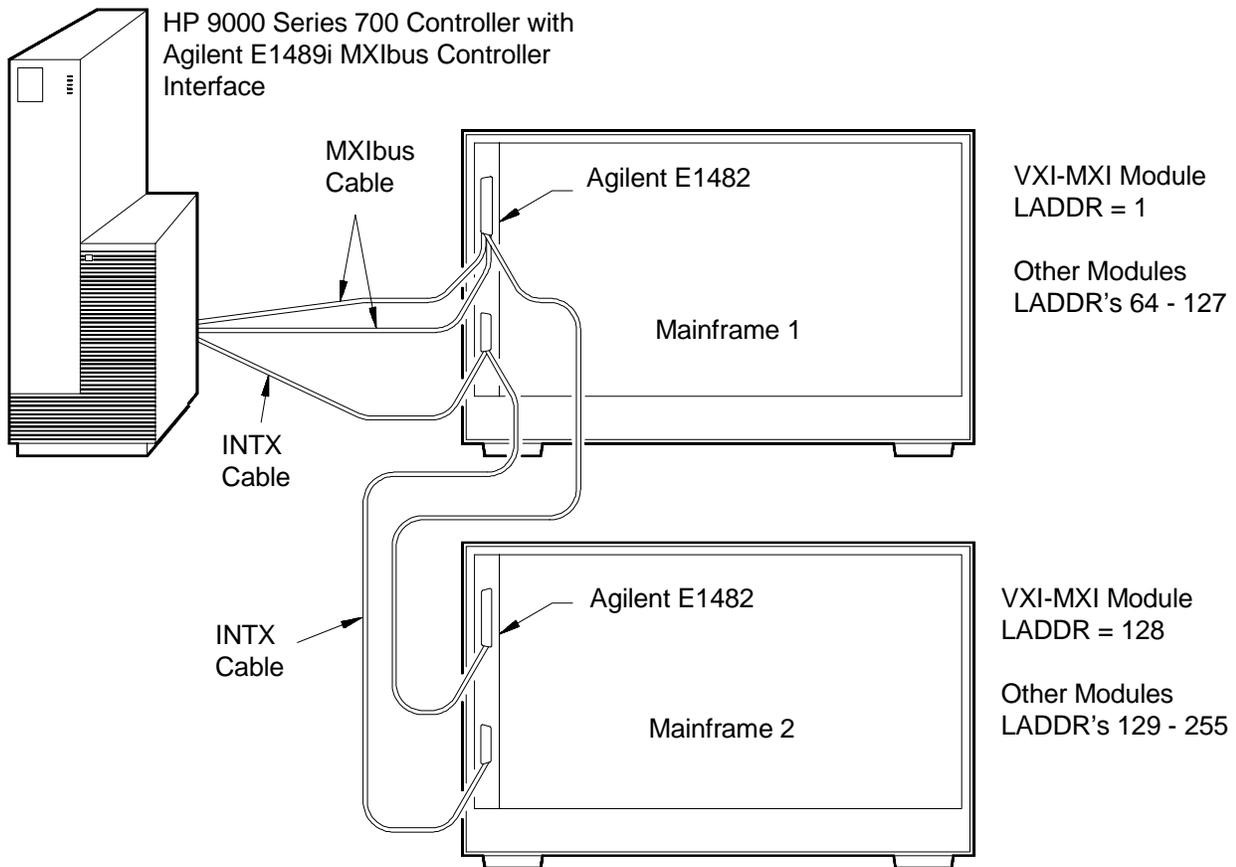

Figure 3-14. External Controller with VXI-MXI, 2-Frame
- 2-Frame - VXI-MXI (Figure 3-14)